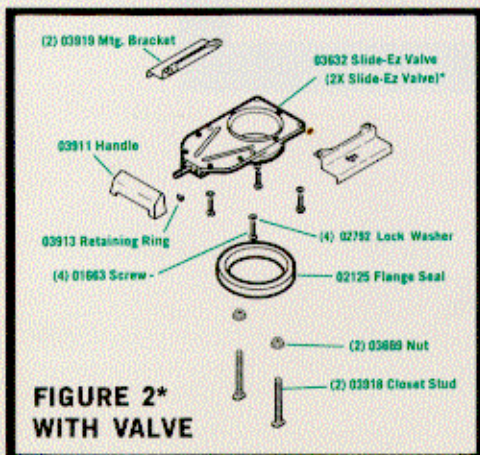

FIGURE 2\*
1. Place one (1) 02125 flange seal on Slide-Ez Valve (Figure 2).
Note: If you have an 03920 extension handle unit, cotter pin and extension handle must be removed at this point (Figure 2).
- D. Remove two (2) nuts and washers from closet studs (one (1) each side underneath unit). (Figure 2).
- F. Remove four (4) 01663 screws and remove valve (Figure 2).